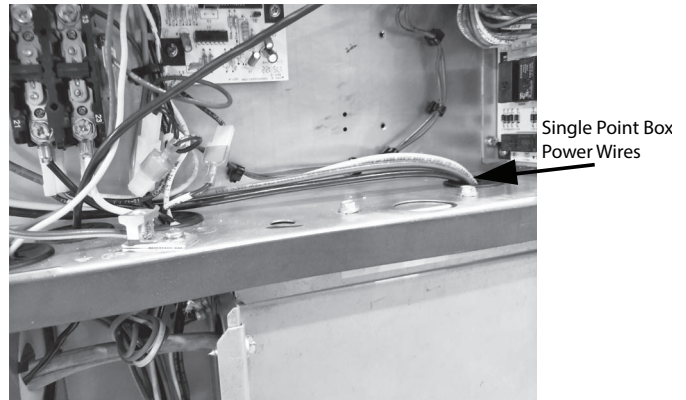

Fig. 23 — Typical Single Point Box Power Wiring
9. Run wire through conduit connecting outside power to the designated terminals at the top of the single point box. Ground appropriately. (See Fig. 23.)